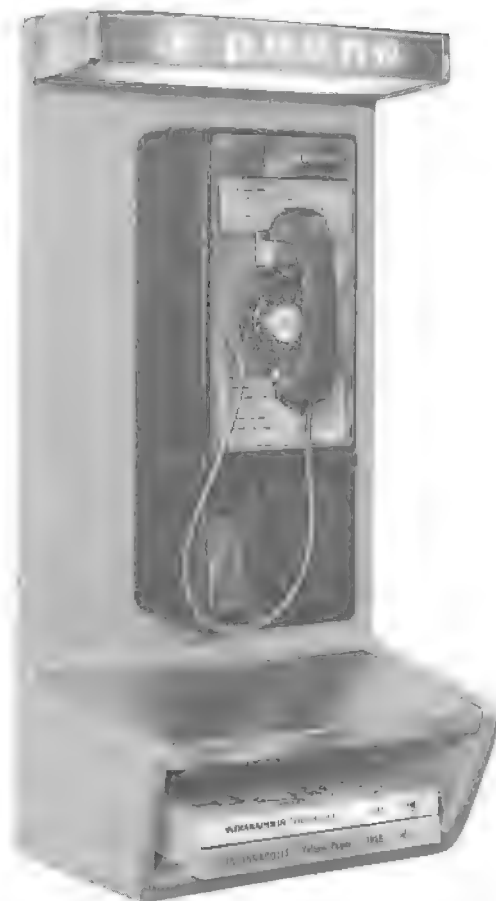

Fig. 1—KS-19945, List 1 Coin Telephone Shelf With 1C1 Coin Telephone Set
2.01 The KS-19945 coin telephone shelf (Fig. 1) is a wall mounted Fiberglas reinforced polyester molded unit intended for indoor use only.
2.06 The shelf is designed for a KS-19681, List 9 or List 10 illuminated sign (Fig. 1) or a porcelain enamel nonilluminated sign (Fig. 2).
2.07 The shelf will accept a 1A/1C-type coin telephone set (Fig. 1) or a 236G coin collector (Fig. 3). No provisions are made for using a subscriber set.